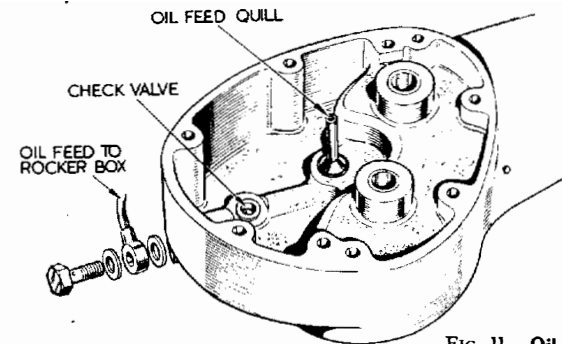

FIG 11 Oil check valve
**Check valve.** A simple check valve (Fig. 11) is provided to prevent oil seeping into the crankcase when the engine is stationary.